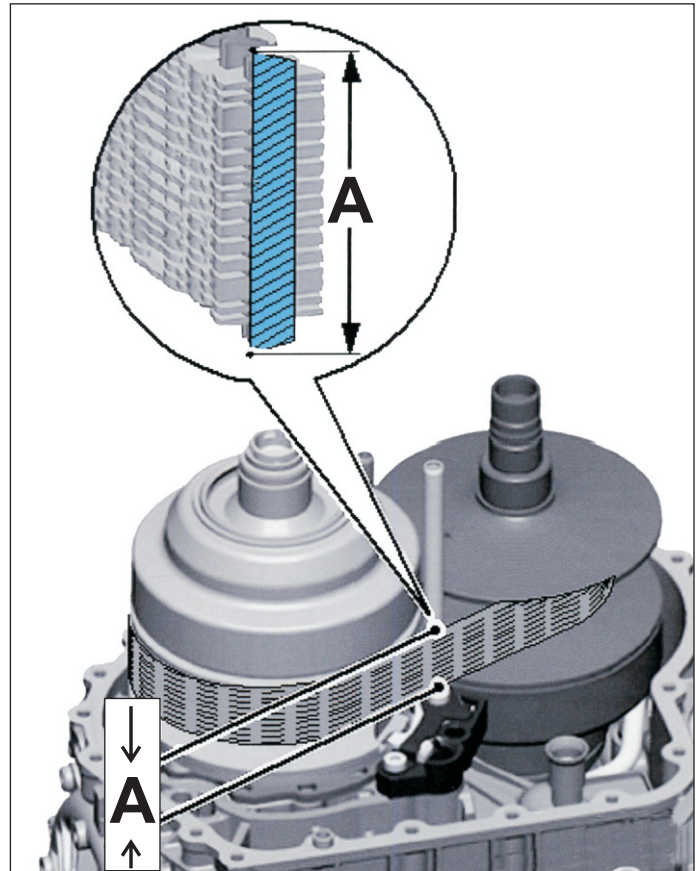

Figure 7
1. Measure the height of the chain from pin end to pin end as seen in figure 7 represented by dimension "A." There are 2 design thicknesses of chains, one is 34 mm in thickness while another is 38 mm in thickness.